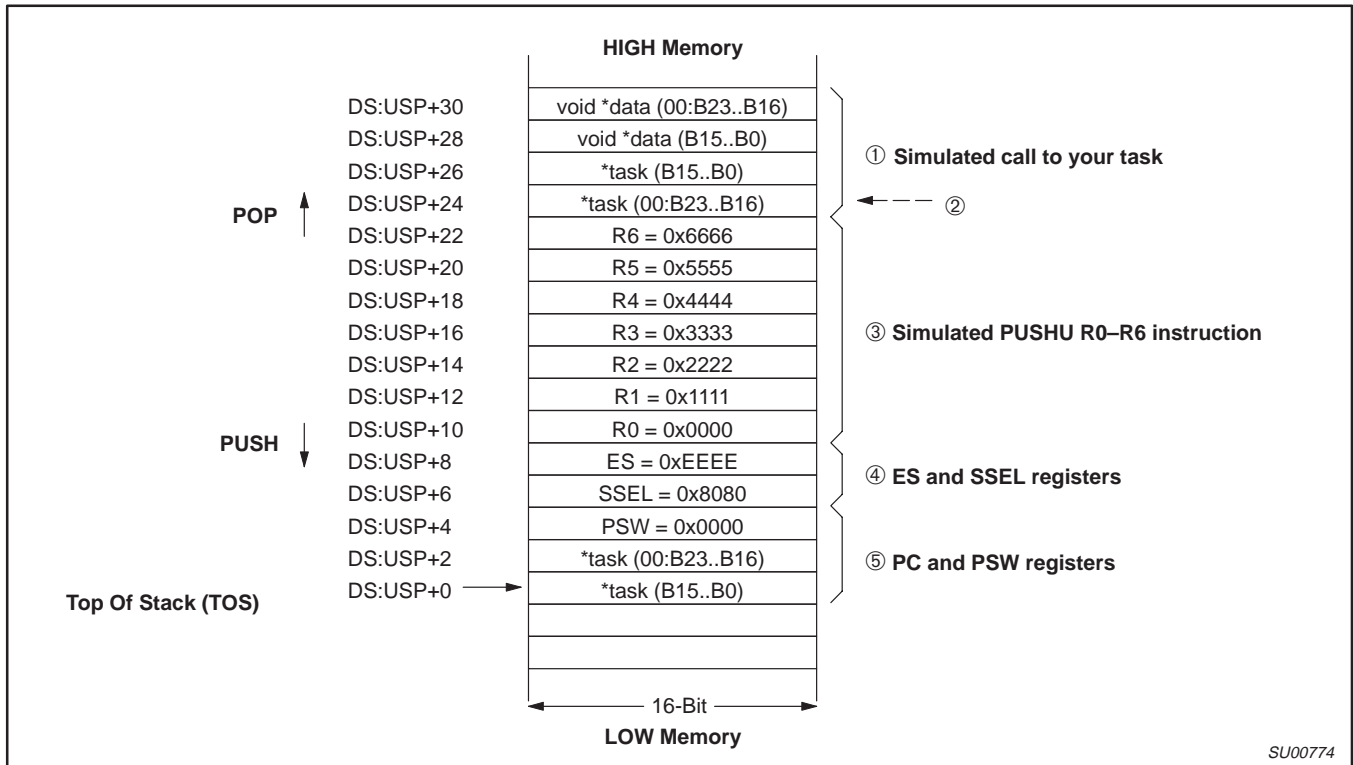

Figure 6.
As previously mentioned, you must prepare your tasks for multitasking by calling `OSTaskCreate()`. `OSTaskCreate()` builds the stack frame for the task being created as illustrated in Figure 6. `DS:USP` indicates that once the task gets to execute, the stack will be located in the bank selected by the DS register at an offset supplied by the USP. You should note that pointers in the large model are 32-bits but, only the least significant 24 bits are used. `OSTaskCreate()` first sets up the stack to make it look as if your task has just been called by another C function ①. In other words, when your task first executes, it will think it was called by another function since the stack pointer will point as shown in ②. `OSTaskCreate()` then simulates the stacking order of a `PUSHU R0-R6` instruction ③ which is needed for a context switch. The initial value of each register is set to the values shown for debugging purposes and can thus be changed as needed. Next, `OSTaskCreate()` stacks both the ES register and the SSEL register ④. Even though both the ES and SSEL registers are 8-bit, they are stacked as two 16-bit values because all XA stacking operations are 16-bit. The SSEL register is initialized to 0x80 to allow your task to read and write data anywhere in the 16-MBytes data address space. You may not want to change the initial value of the SSEL register because the compiler will not know that write through the ES register is not allowed (run-time) but, it will generate code (compile-time) as if it was. During an interrupt or a context switch, the XA pushes the PC and the PSW onto the system stack. The stacking order of these registers as shown on the stack frame of Figure 6 is reversed because `OSTaskCreate()` simulates a move of these registers from the system stack to the user stack ⑤.